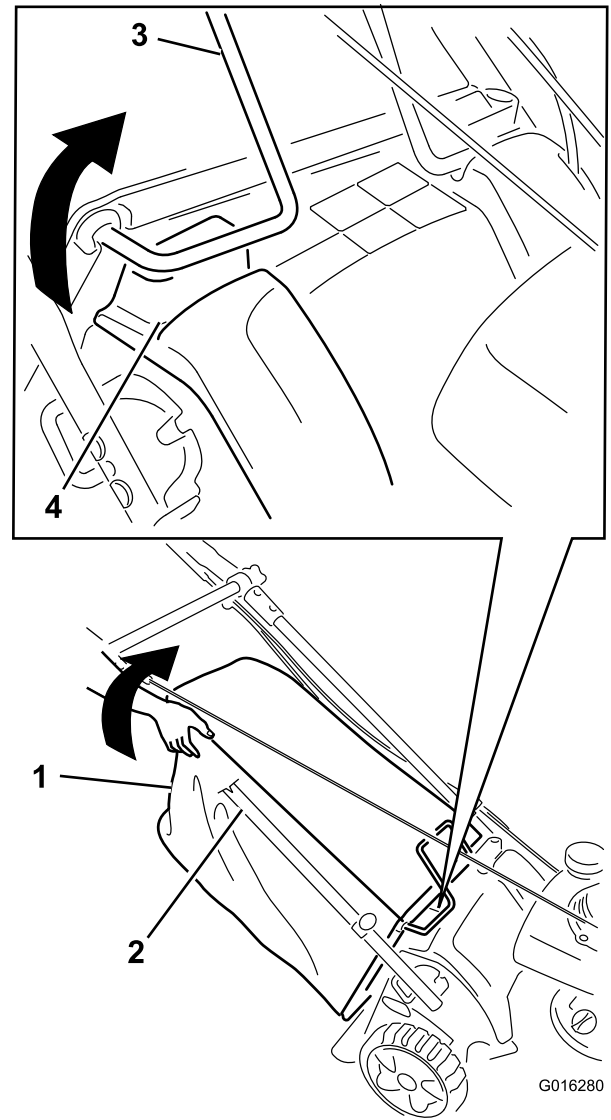

Figure 56
5. While the engine is running, lift up the upper right rear corner of the grass bag until the wire bag frame at the upper right front of the grass bag is completely out of the right-hand slot (Figure 56). **The engine should stop.**